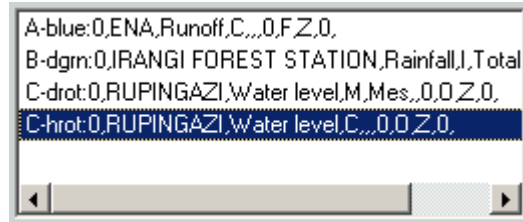

Figure 9.14: Select series
Once you have selected one or more measuring sites in the main window of the program system you are working with, these will appear in the series list of the TopoVit-window ($\hookrightarrow$ fig. 9.14).
- When you have filled in Station and/or Parameter, click Return subsequently. This way the desired series will be displayed in the according axbox and listed in the series list ($\hookrightarrow$ fig. 9.14) in the TopoVit-window.
In the shortlist in figure 9.14 you find all displayed series indicating axbox and display attributes (display colour, station name, parameter).
To be able to edit a series, it must be clicked on in the list of loaded series ($\leftrightarrow$ fig. 9.14). The axbox in which the series is displayed is tickmarked.